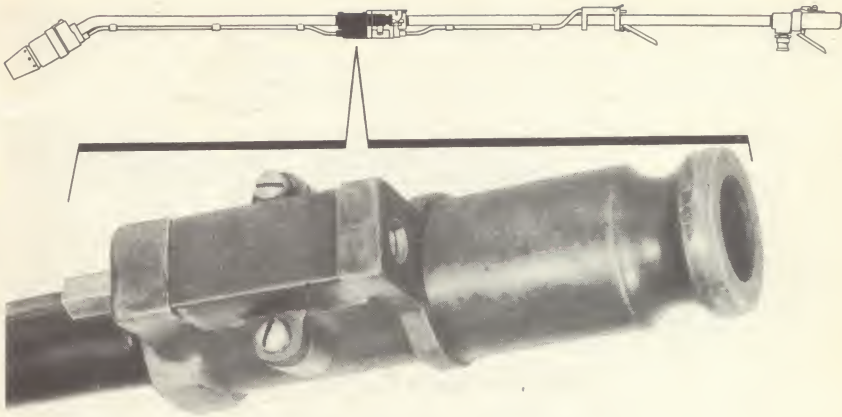

Fig. 39. Male gun connector.
(1) Gun connector. The male gun connector (figs. 39 and 40) fits into the control-end gun connector and serves to connect the two halves of the gun.